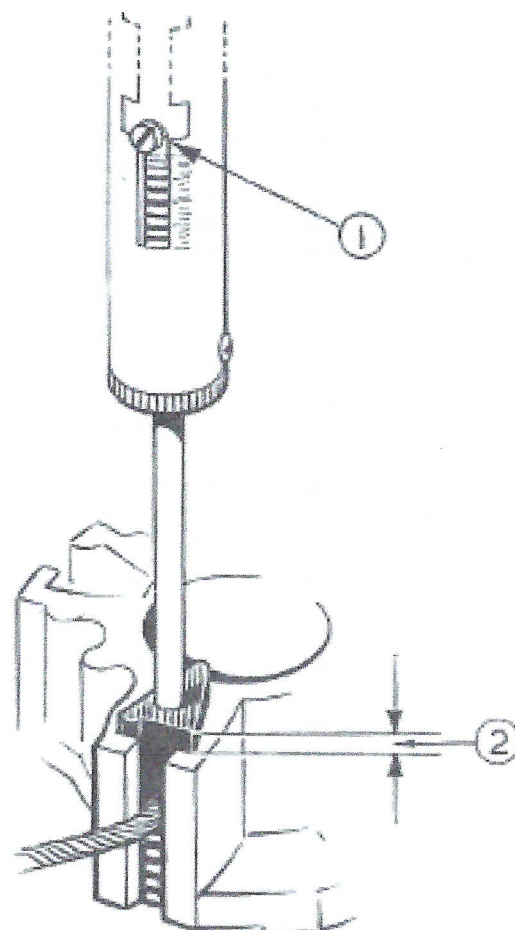

Fig. 5 Checking brush spring pressure
**Brush spring pressure:** To measure the brush spring pressure, position a new brush in each of the brush boxes in turn and then press on top of the brush with a push-type spring gauge (refer Fig. 5) until the top of the brush protrudes about 0.062 in. (1.5 mm) from the brush box moulding, when the spring pressure reading should be 36 ozf (10.0 N).